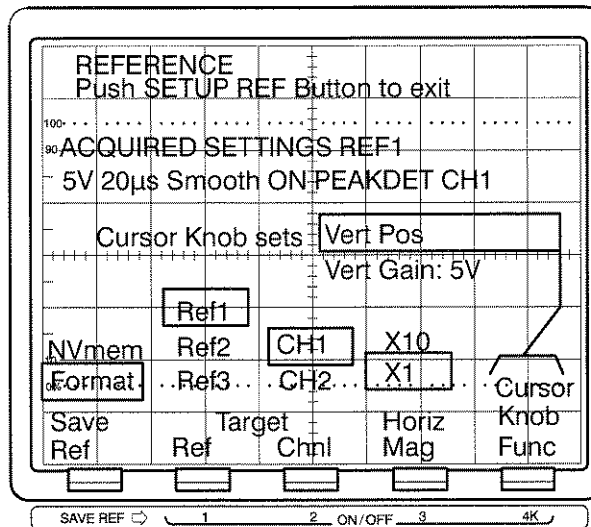

Figure 3-43: Format Reference Menu
- ☐ **Step 2:** Press the left **Save Ref** menu to indicate **Format**. The **Format** Reference Menu appears (Figure 3-43).